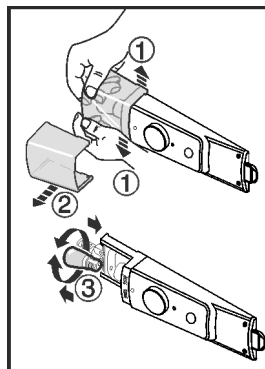

Fig. 14
- ▶ Push the lamp cover in and apart at the front Fig. 14 (1), and remove to the side Fig. 14 (2) as shown in the illustration.
- ▶ Replace the lamp. Fig. 14 (3)